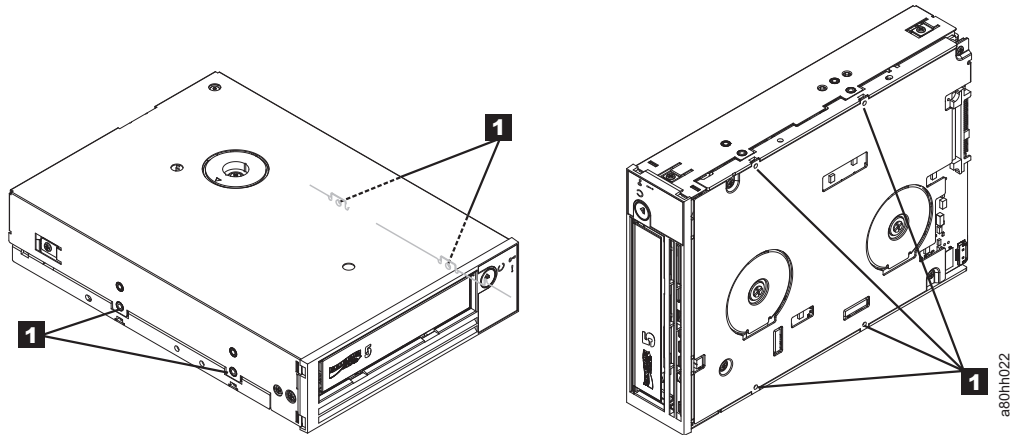

Figure 35. Removing the bezel and the cover from the internal drive
- 1) Remove the four cover-mounting screws ( **1** in Figure 35). Two screws are on each side of the drive.